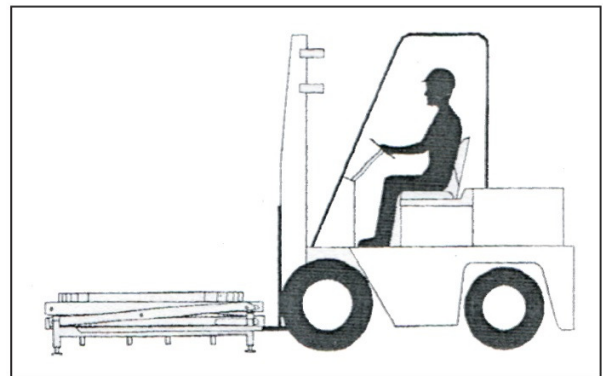

Figure 12. Moving the Level Loader
2. Insert the forks into the pockets in the base frame. See Figure 12.